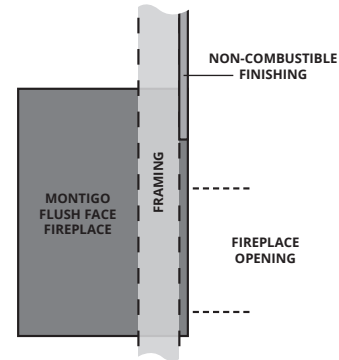

FIGURE 2. STANDARD STYLE
- When using the Standard style (See Figure 2). the nailing flange extension is not used and ONLY NON-COMBUSTIBLE MATERIALS MAY BE BROUGHT TO THE CABINET NAILING FLANGE. With the Standard style, all of the black metal fireplace trim can be covered with either of the optional Montigo surrounds.